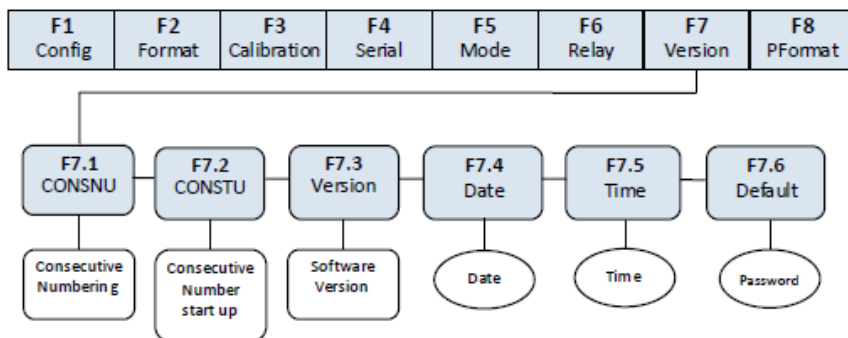

Fig. 15.2.1 F7(Ver) Menu
- (1) Turn on the K1, SW2 or J1 switch to set indicator to the Configuration mode. Display shows "F1".
- (2) Press  until display shows "F7" (see Fig. 15.2.1). Press  to go to F7 Menu. Display shows "F 7.1". Press  twice until display shows "F7.3".
- (3) When indicator shows "F7.3", press  again, display shows the current software version "XX.XX". Software version cannot be edited.
- (4) Press  to return to F7.3 Menu. Display shows "F7.3".
- (5) Turn off the K1, SW2 or J1 switch to exit from Calibration mode and enter into Weighing Mode.
- (2) Press  until display shows "F7" (see Fig. 15.2.1). Press  to show "F7.1". Press  until display shows "F7.6".